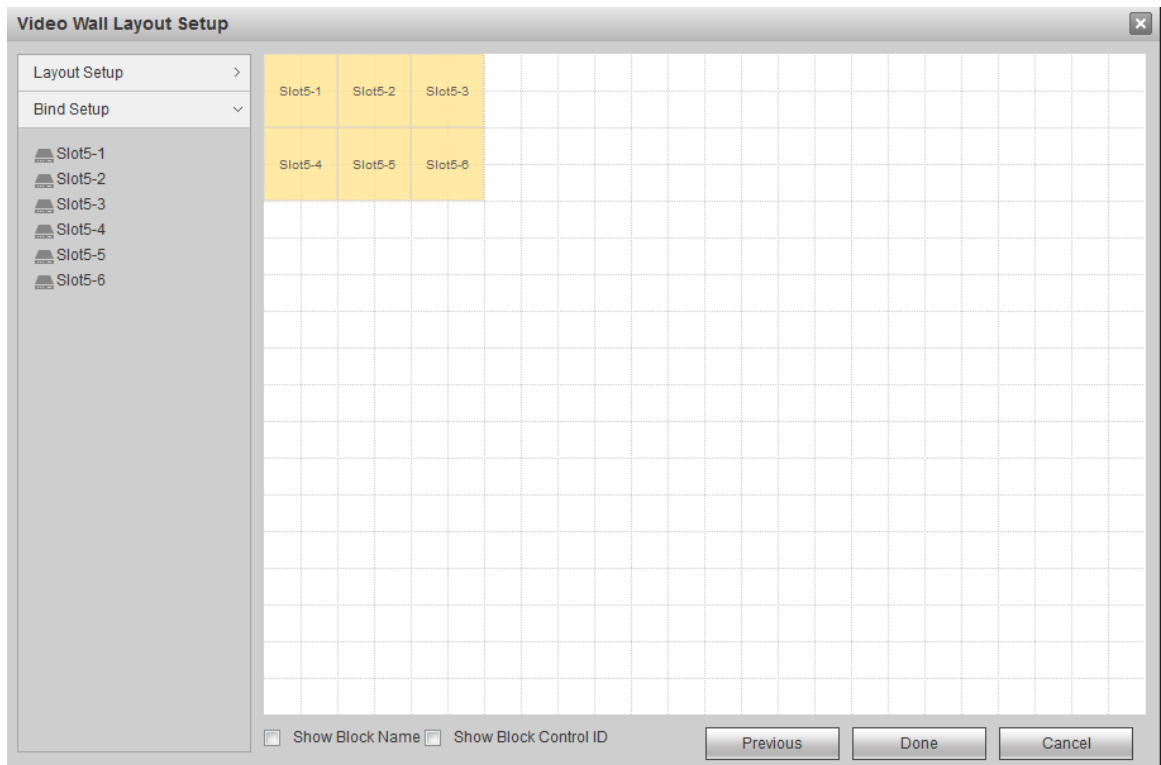

Figure 3-7
Step 5 Hold the left mouse button, drag the slot into screen, so as to bind the slot channel with screen, as shown in Figure 3-7.